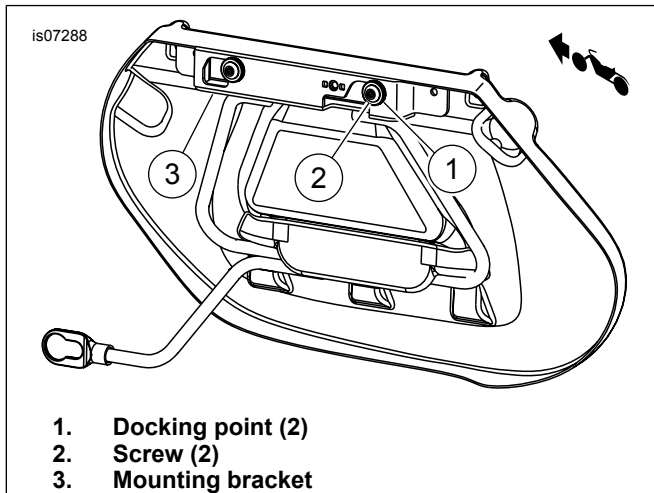

Figure 2. Mark Drilling Locations
- d. See Figure 2. Insert docking points into the mounting bracket. Insert a screw through the docking point (8) and saddlebag to properly position the bracket.